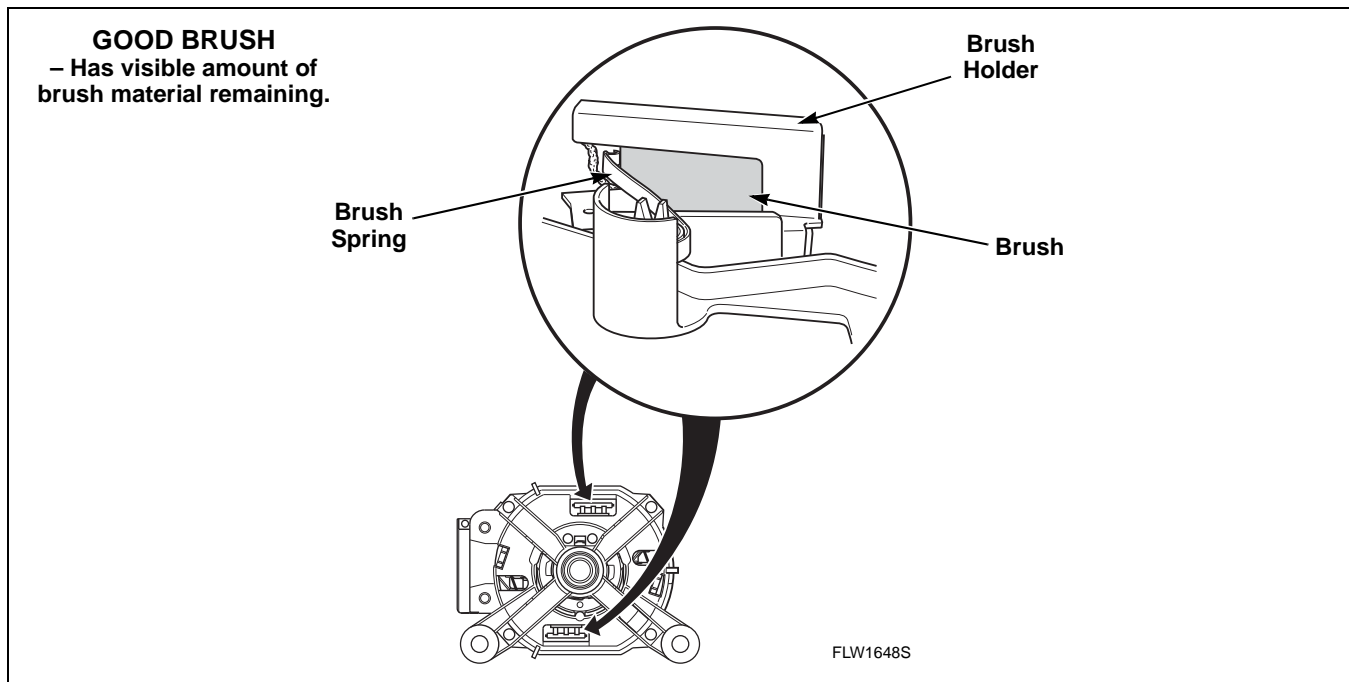

Figure 14
- b. Using a flashlight, view brushes through holes in motor end shield. Refer to *Figure 14*.
- c. Inspect both brushes to determine if either brush is worn. Refer to *Figures 14 and 15*.
- Using a flashlight, view brushes through holes in motor end shield. Refer to *Figure 14*.
- If there is a visible amount of brush left, use a screwdriver or similar device to push brush back and forth to loosen and remove dust. Refer to *Figures 14*.